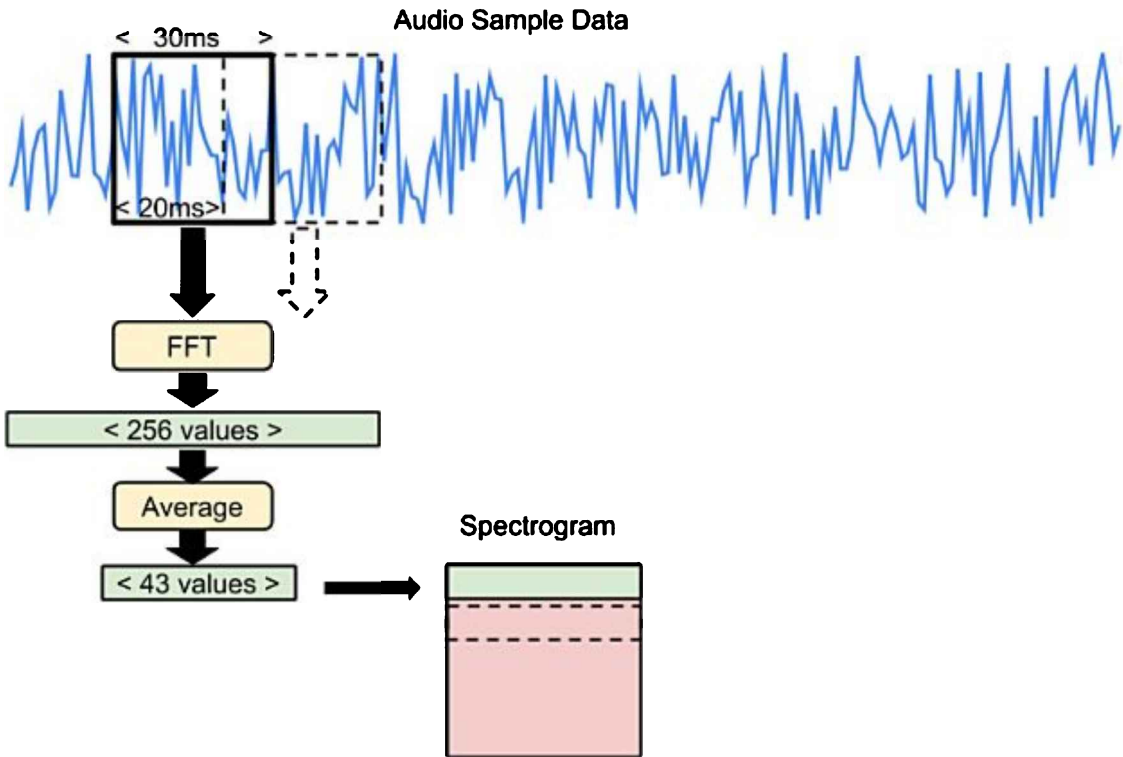

Figure 7-4. Diagram of audio samples being processed
**Figure 7-4** shows how this happens.